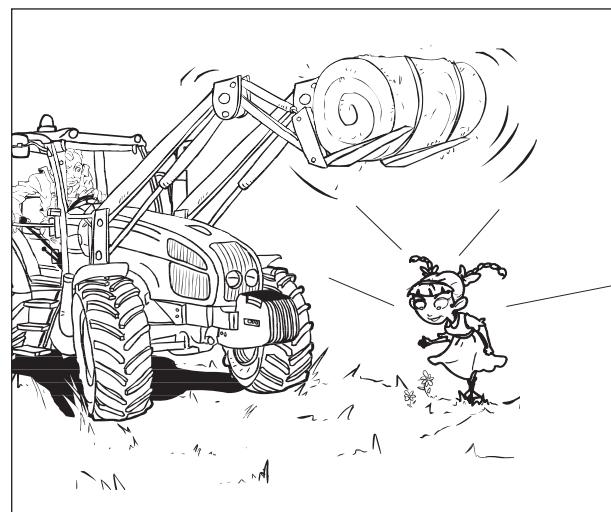

Fig.2-17
- Keep others away from your operation area. Never allow anyone to stand or pass under a raised implement (Fig.2-17).
⚠ WARNING: NEVER lift a load over anyone (Fig.2-17).